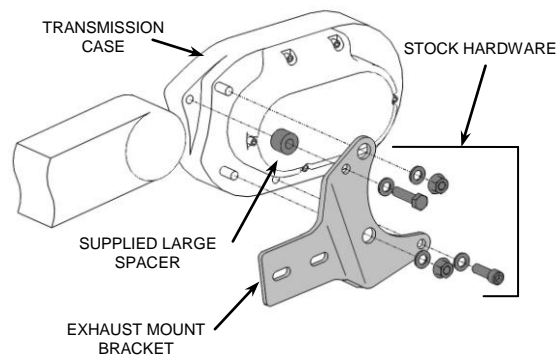

FIGURE 1
6. Install the supplied exhaust mount bracket using the stock bolts. See **FIGURE 1**. Tighten the bolts to factory specifications. If applicable, be sure to insert the large spacer between the exhaust mount and the transmission case as shown in **FIGURE 1**.